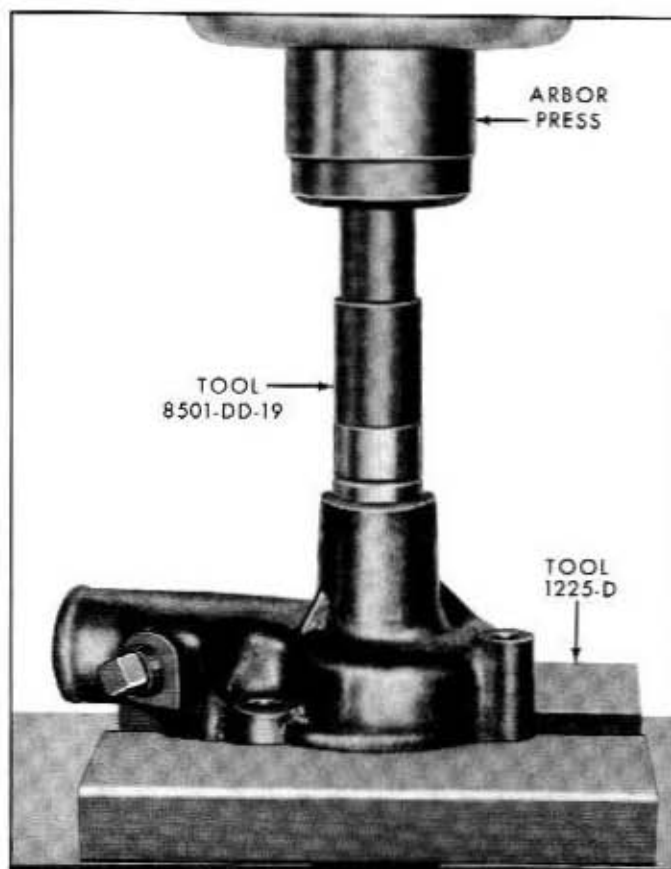

Fig. 8-8—Shaft Installation—(60C-6005)
2. Coat the bearing outer diameter with grease, position the shaft assembly, and with Tool 8501-DD-19 press it into the housing. See figure 8-8.